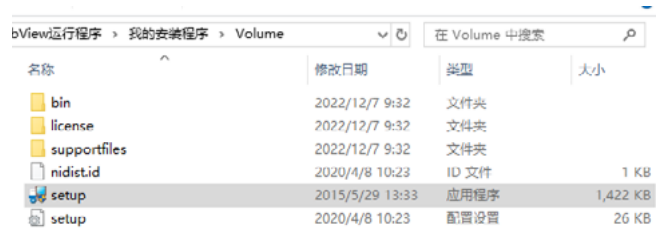

Figure 5.2 LabVIEW setup wizard
3.2.2 Find the setup.exe in the folder as shown in Figure 5-2.